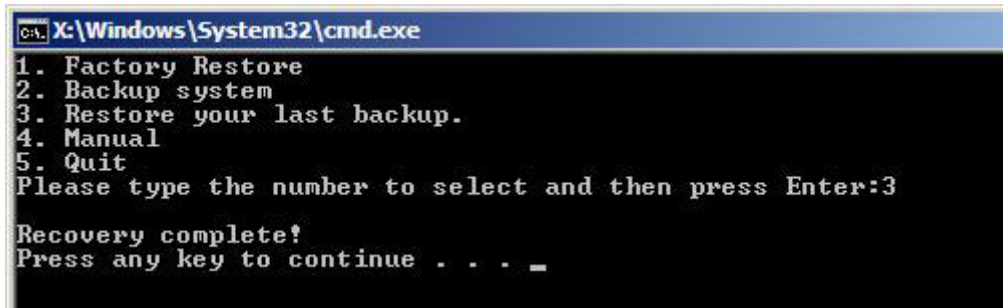

Figure A-39: Restore System Backup Complete Window
Step 3: The screen is shown as in **Figure A-39** when backup recovery is completed.